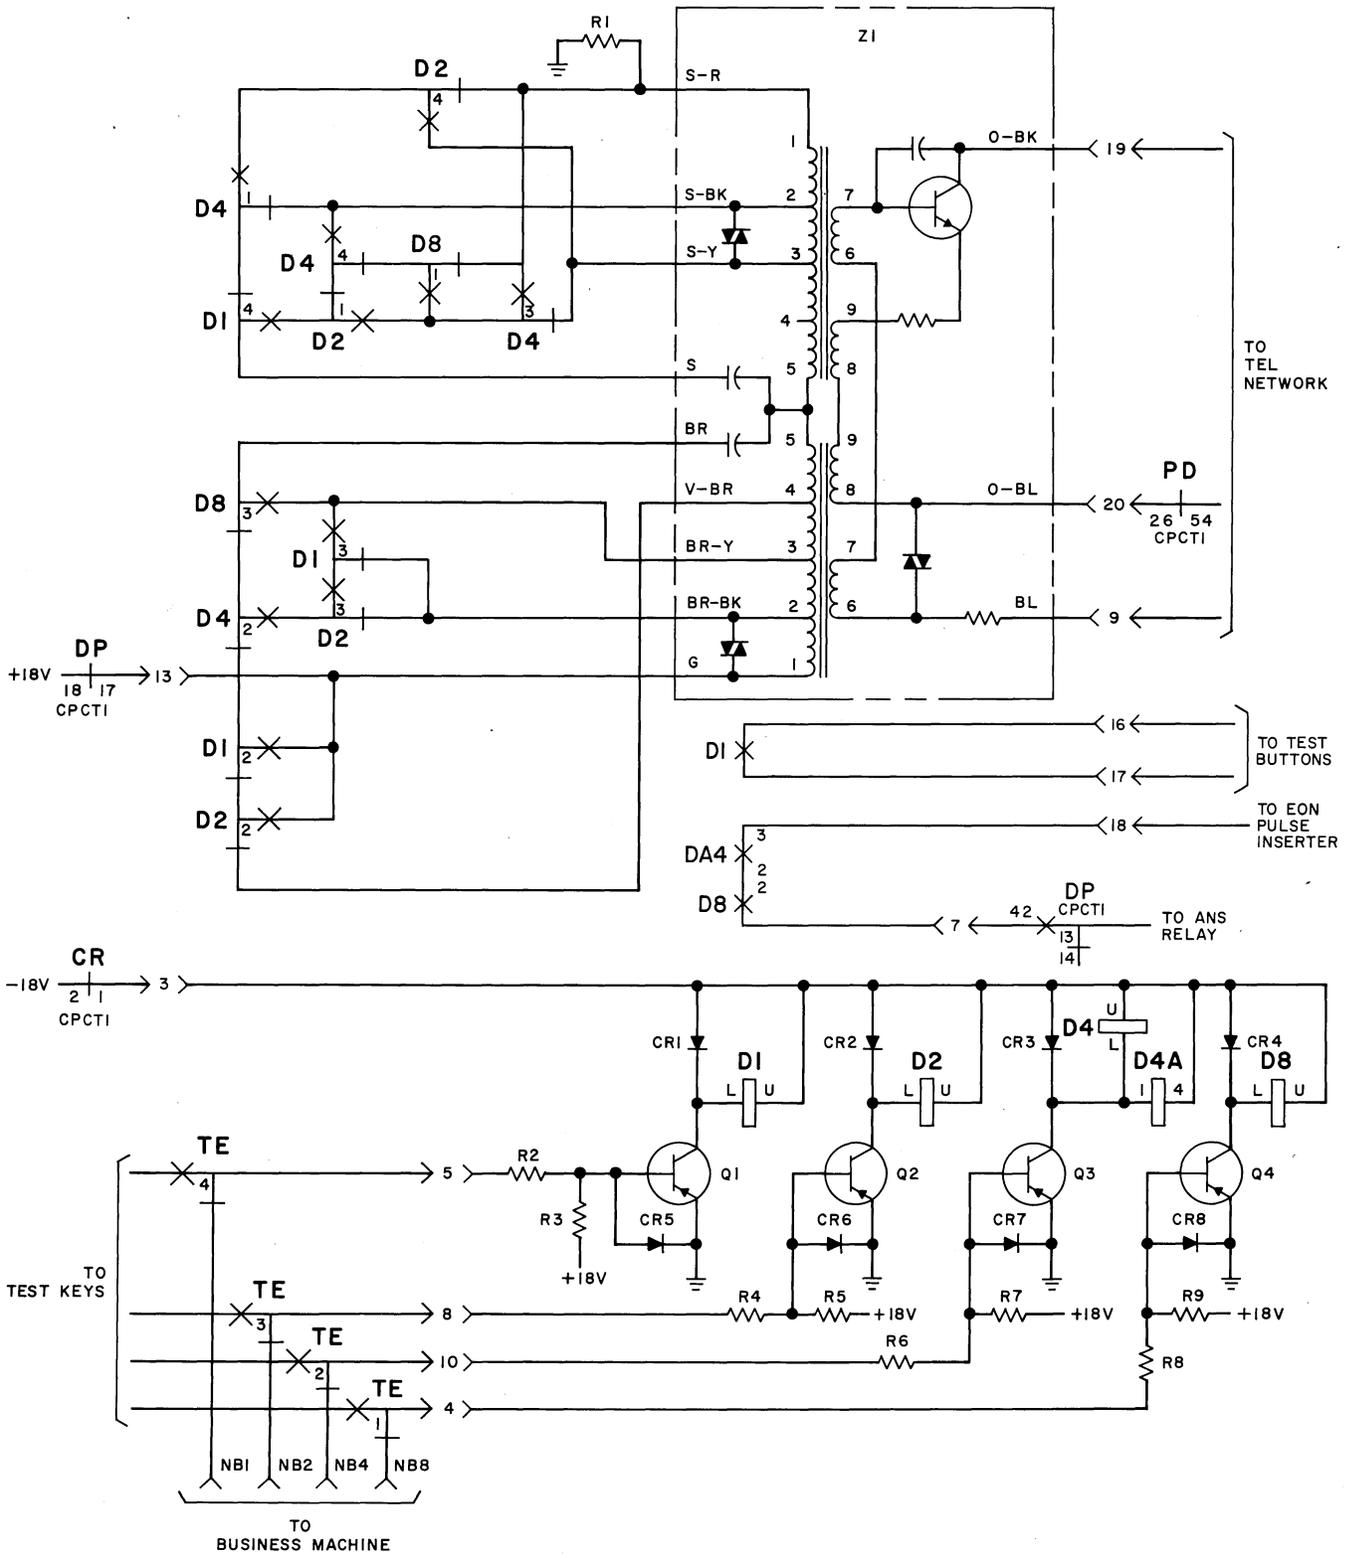

Fig. 11—10-Combination TOUCH-TONE Transmitter and Control Circuits—Schematic Diagram
3.26 The TOUCH-TONE transmitter is controlled by the operation of four relay drivers and their associated relays. The relay drivers receive a number in binary form from either the test keys or the business machine (Fig. 11). When the ACU is in the test mode, the TE relay is operated and the test keys are connected to the relay driver circuits. When the ACU is not in the test mode, the TE relay provides a set of contacts that connect the business machine leads to the relay drivers. The operation of the relay drivers is identical, whether the signals are supplied by the test keys or by the business machine. The digits are presented to the relay drivers in binary form on terminals 5, 8, 10, and 4. Since the operation of all the relay drivers is identical, only Q1 will be described.
3.27 The relay windings are connected to a -18 volt source through terminal 3 and a CR relay contact (Fig. 11). Reverse bias supplied to Q1 by R3 is limited by CR5, and the transistor is normally off. Resistor R2 limits the base current of Q1 when a negative voltage is applied to operate the D1 relay. Diode CR1 limits the induced voltage across the relay winding when the relay releases. Contacts on the digit relays, which are controlled by the relay drivers, control the frequencies of the TOUCH-TONE oscillator Z1. This is accomplished by the digit relays D1, D2, D4, and D8 connecting the two capacitors to the appropriate taps on the